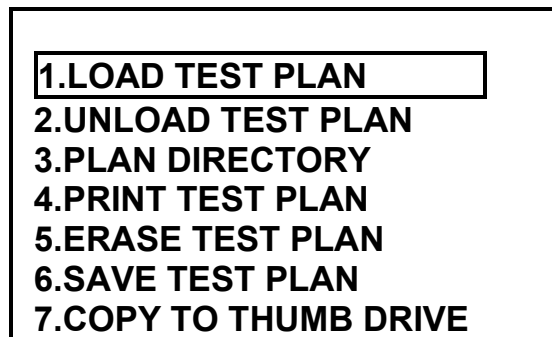

Figure 81.0 Test Plan With Thumb Drive Menu
- b. **Origin:** This menu is displayed after the operator selects menu option 7 (“Copy To Thumb Drive”) from the “Test Plan With Thumb Drive Menu” (Figure 81.0).
- b. **Origin:** This menu is displayed after the operator selects menu option 1 (“Load Test Plan”) from the “Test Plan With Thumb Drive Menu” (Figure 81.0).
- b. **Origin:** This menu is displayed after the operator selects menu option 3 (“Plan Directory”) from the “Test Plan With Thumb Drive Menu” (Figure 81.0).
- b. **Origin:** This menu is displayed after the operator selects menu 4 (“Print Test Plan”) from the “Test Plan With Thumb Drive Menu” (Figure 81.0).
- b. Origin:** This menu is displayed after the operator selects menu option 5 (“Erase Test Plan”) from the “Test Plan With Thumb Drive Menu” (Figure 81.0).
- b. **Origin:** This menu is displayed after the operator selects menu option 6 (“Save Test Plan”) from the “Test Plan With Thumb Drive Menu” (Figure 81.0).